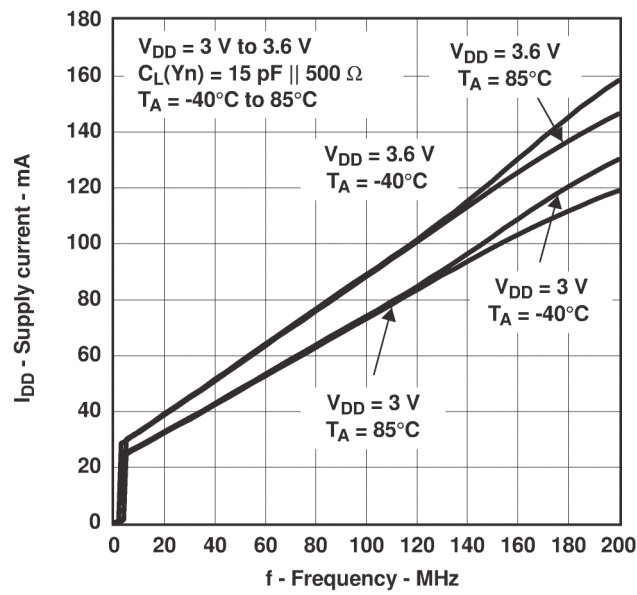

Figure 9-2. Supply Current vs. Frequency
(1) All typical values are at respective nominal V_{DD} .
(2) For I_{DD} over frequency see Figure 9-2.